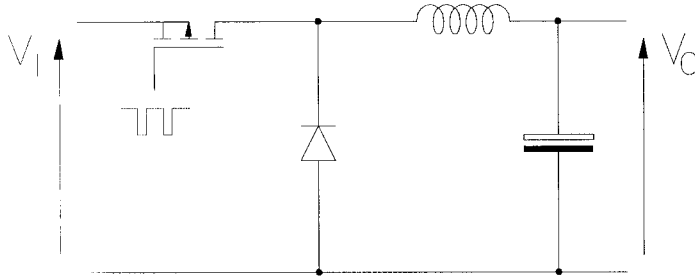

Figure 2
- (a) Derive an equation for the ratio of output voltage to input voltage for the step-down switch-mode power supply (SMPS) shown in figure 2 for continuous conduction mode. State any assumptions that are made in the derivation. [4]